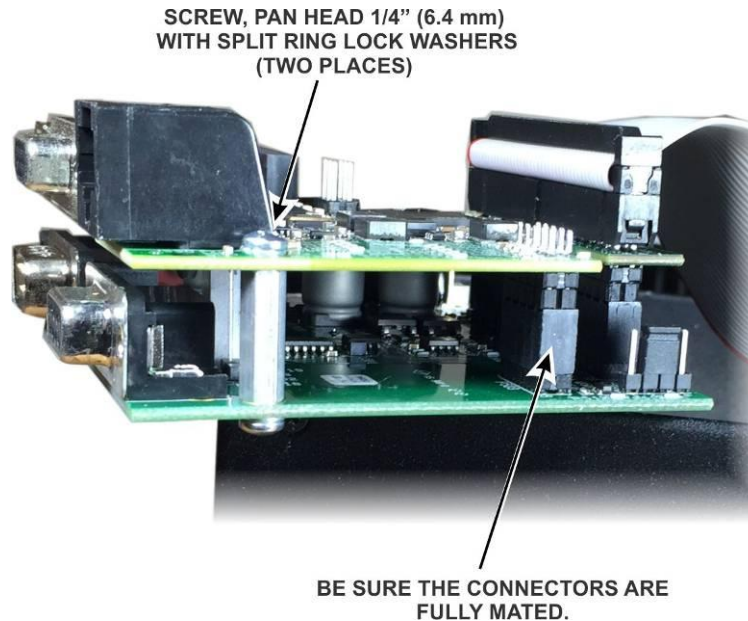

Figure 4. TX Monitor Module Mounted on the P3 I/O Board.
- Mount the Tx Monitor board on the P3 I/O board as shown in Figure 4 using the remaining screws and lock washers.